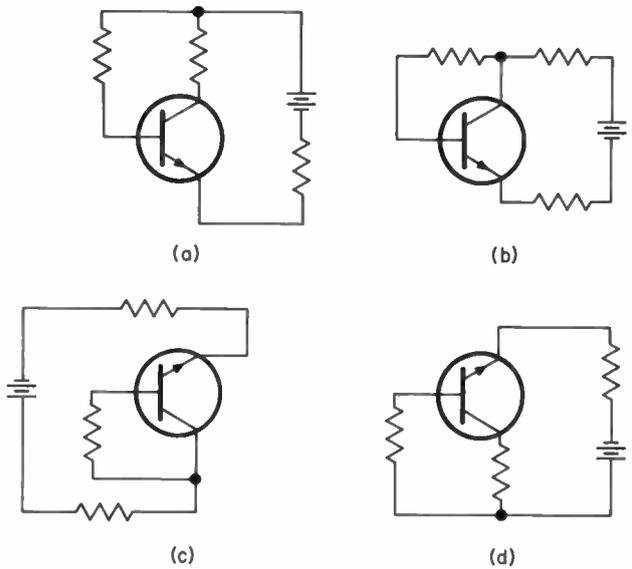

Fig. 57
2. Find two circuits in Fig. 57 that are the same. Are the remaining two circuits also the same?